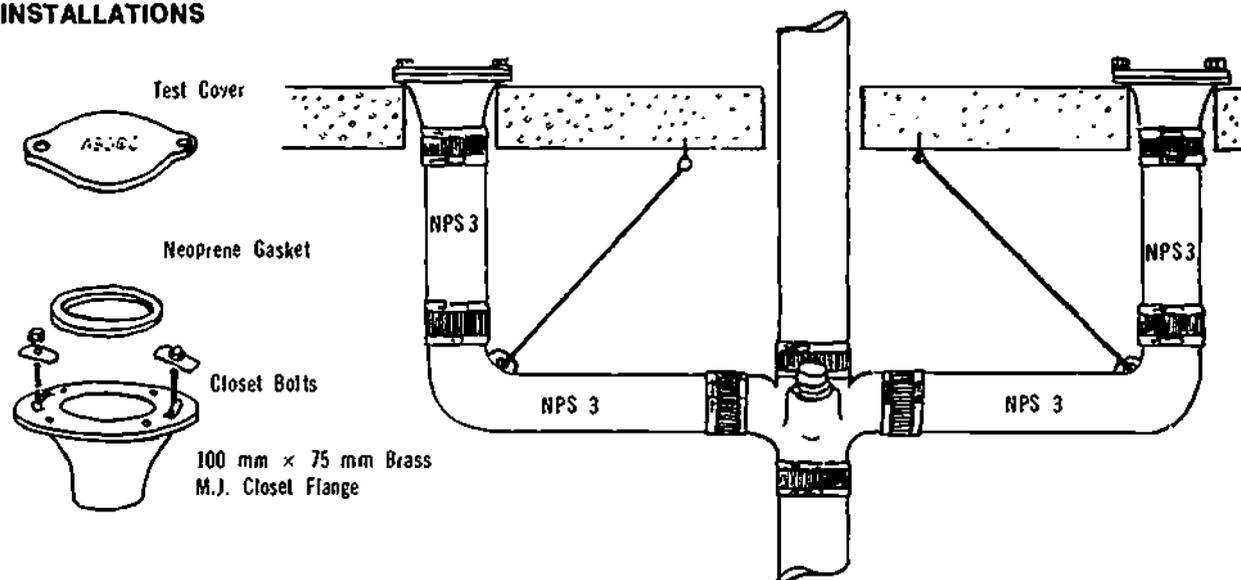

Figure 4-16. Piping Installation Through Flooring
6. The cast-on hanger eye on some closet bends (Figure 4-16) lessens installation time and helps to protect against costly blow-outs during tests. Closet flanges are also available with the tie-down assembly bolts (Figure 4-17).